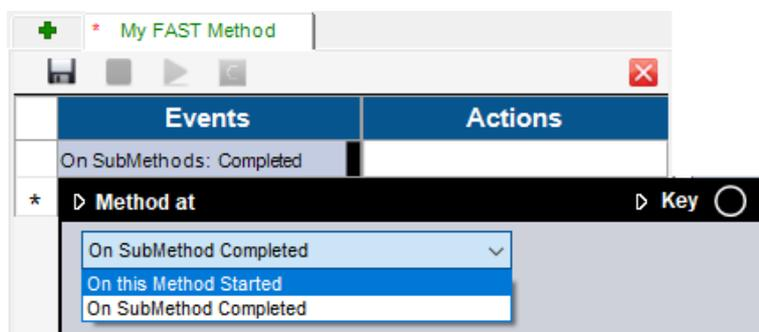

Figure 14-34. First ESI FAST Event
- b. Drag this item to the first cell. This *On Method* event automatically changes to *On SubMethods: Completed*, see Figure 14-34.